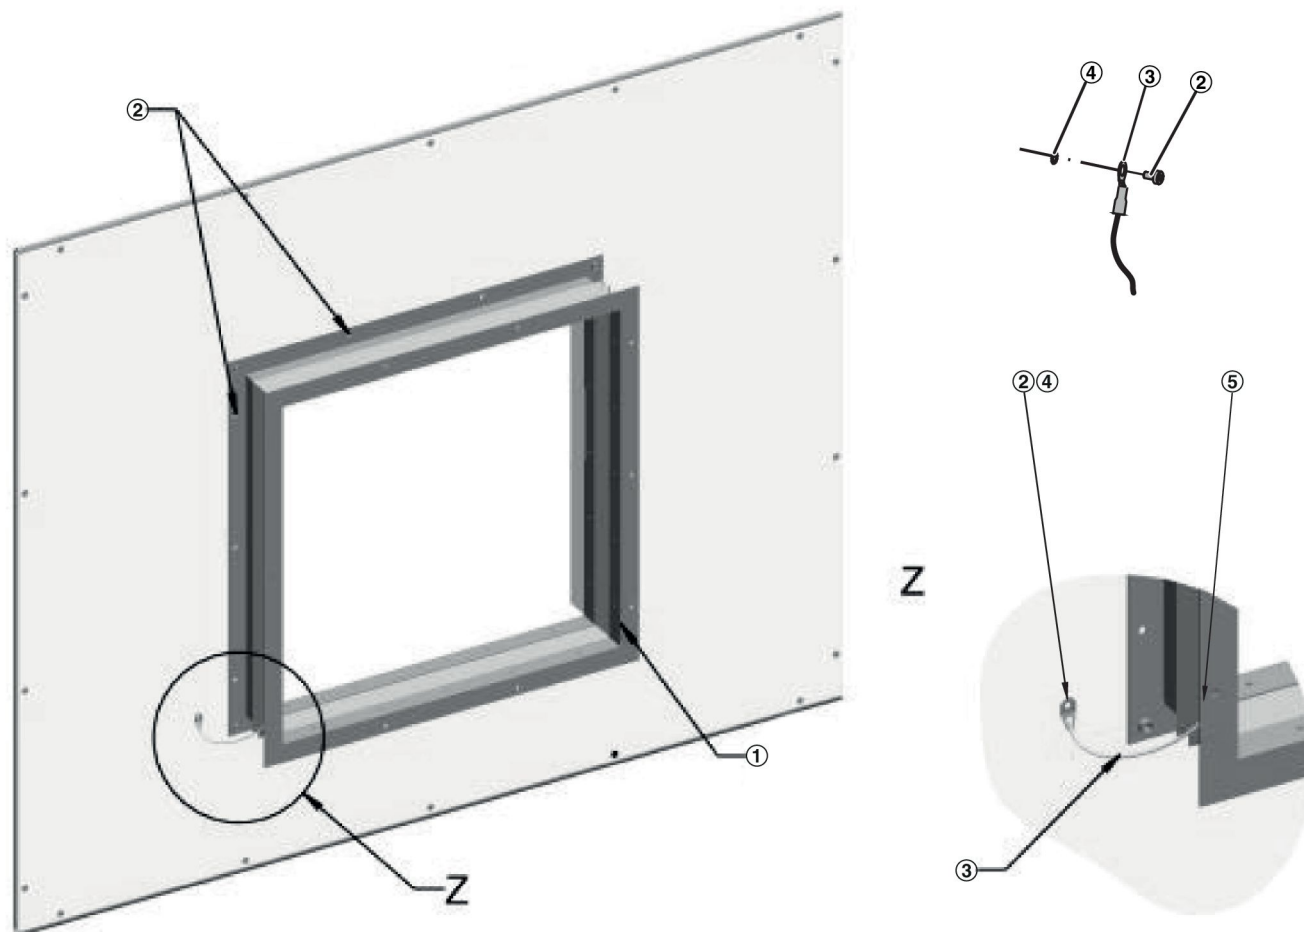

Fig. 15: Flexible connector
①	Flexible connector
②	Thread forming pan head screw	M852AC6
③	Ground cable
④	Schnorr washer	A00000055655
⑤	Secure all screw joints.	By others
1. ▶ Fix the flexible connector (Fig. 15 /1) with screws (Fig. 15 /2) to the AHU.
2. ▶ Fix one eye of the ground cable (Fig. 15 /3) with a screw (Fig. 15 /2) and a Schnorr washer (Fig. 15 /4) to the panel of the AHU. Fix the other eye of the ground cable to the duct (conductive) and secure it (Fig. 15 /5).